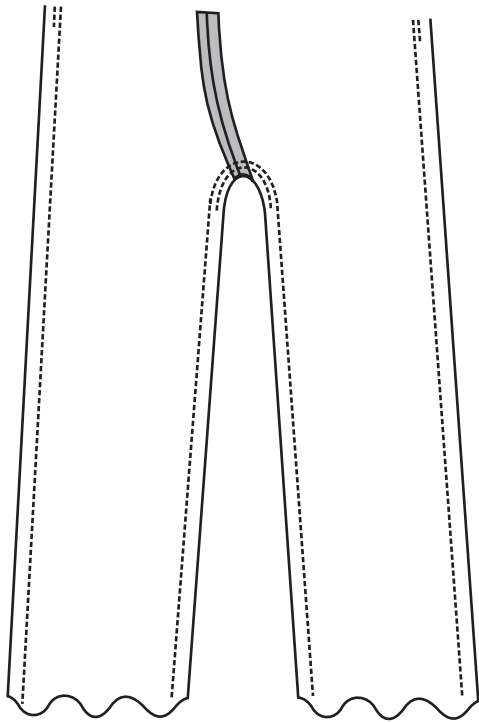

Fig. 1-3
4. Pin the front to the back with right sides together and the upper edges even. Sew or serge the side seams. (Fig. 1-3)
5. With right sides together and the center seams aligned, pin each leg front and back together at the inseam. Begin at the end of one leg and sew or serge the seam to the end of the other leg. Reinforce the crotch seam with a second line of stitching sewn $\frac{1}{8}$ inch from the seam line in the seam allowance. (Fig. 1-3) Clip the curve. Turn the pants right side out.